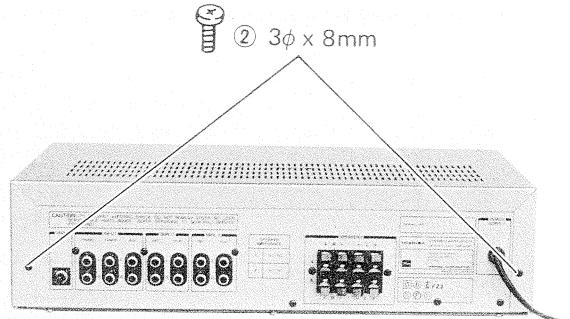

Figure 4
2. Remove two screws ② ($3\phi \times 8mm$) from back side of top cover, then top cover can be removed as shown in Figure 4.